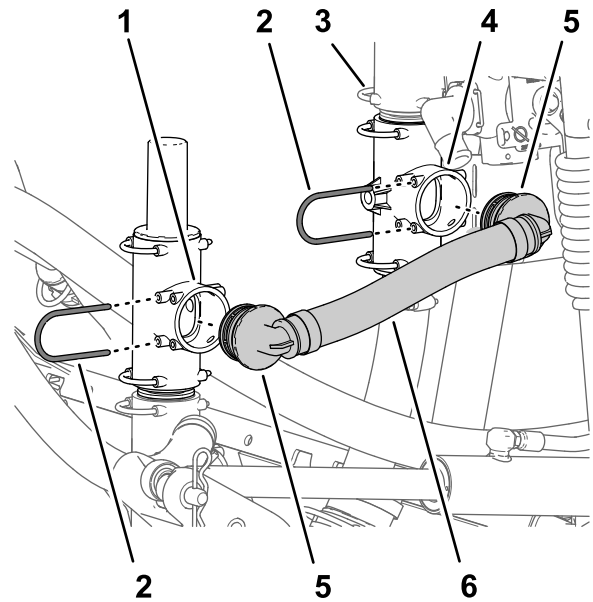

Figure 9
1. Align the 90° fitting of the pressure relief-hose assembly with the open port in the upper T-fitting (located below the pressure-relief valve), and insert the 90° fitting until it is fully seated (**Figure 9**).
2. Secure the 90° T-fitting with the retainer (**Figure 9**) that you removed in step 2 of Removing the Hoses \(page 4\).
3. Align the other 90° fitting of the pressure relief-hose assembly with the open port of the lower T-fitting (secure to the valve mount) and insert the 90° fitting until it is fully seated (**Figure 9**).
4. Secure the 90° fitting to the upper T-fitting with the retainer (**Figure 9**) that you removed in step 2 of Removing the Hoses \(page 4\).
4. Secure the straight-barbed fitting to the eductor valve (Figure 9) with a retainer.